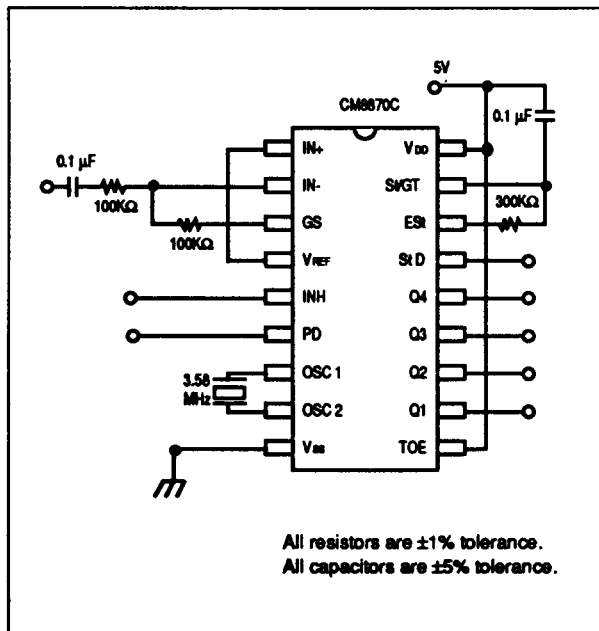

Figure 1. Single Ended Input Configuration
- Referenced to Figure 1. Input DTMF tone level at -28 dBm.
The value of tDP is a parameter of the device and tREC is the minimum signal duration to be recognized by the receiver. A value for C of 0.1 uF is recommended for most applications, leaving R to be selected by the designer. For example, a suitable value of R for a tREC of 40 milliseconds would be 300K. A typical circuit using this steering configuration is shown in Figure 1. The timing requirements for most telecommunication applications are satisfied with this circuit. Different steering arrangements may be used to select independently the guard-times for tone-present (tGTP) and tone absent (tGTA). This may be necessary to meet system specifications which place both accept and reject limits on both tone duration and interdigit pause.
In a single-ended configuration, the input pins are connected as shown in Figure 1 with the op-amp connected for unity gain and VREF biasing the input at $\frac{1}{2} V_{DD}$. Figure 6 shows the differential configuration, which permits the adjustment of gain with the feedback resistor R5.